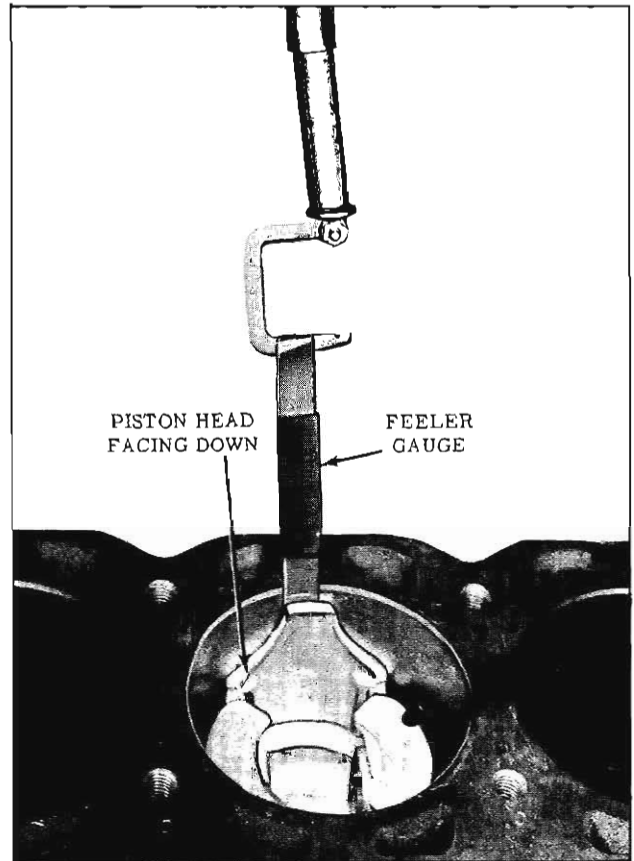

Fig. 3-429 Checking Piston Clearance
1. Place a strip of .0015" feeler gauge against the upper side of the bore, at 90° to the normal piston pin location. Attach scale J-5515 to feeler gauge. (Fig. 3-429)